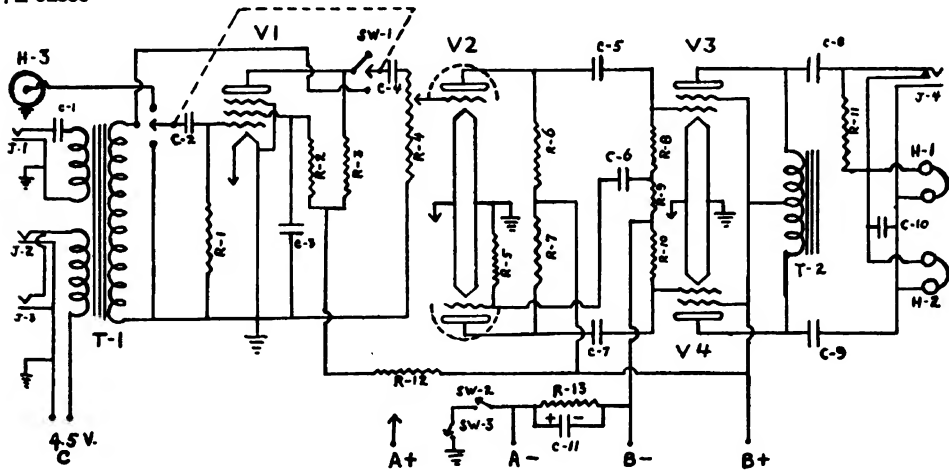

Figure 4. Amplifier, schematic diagram.
a. Carbon Microphone Input (fig. 4). Two input jacks, J-2 and J-3, are provided for input from carbon microphones. Either one or two may be used depending on whether or not two microphones are required to satisfactorily cover the area of the room. The circuit is from the jacks, through the selector switch, SW-1, to the grid of the first amplifier stage.
b. Contact Microphone and Induction Coil Input (fig. 4). A high-impedance input connector, H-3, is used for either contact microphone or induction coil applications. The circuit is from the connector, through the selector switch to the grid of the first amplifier stage.
c. Direct Telephone-line Tap Input (fig. 4). When a direct telephone-line tap is used the input is through a jack, J-1, the selector switch, to the grid of the second amplifier stage. Because the strength of this signal requires less amplification than the other applications, the first amplifier stage is bypassed.
a. First Audio Amplifier (fig. 4). The first audio amplifier is resistance coupled from the selector switch to the grid. The tube is a 1N5GT, a directly heated pentode. The grid connection is to a cap on the tube. The stage acts as a straight amplifier.
b. Phase Inverter (fig. 4). The second stage of the amplifier, a 1G6GT tube, is a duo-triode, which acts as a phase inverter to drive the output
c. Power Output Stage (fig. 4). The power output stage consists of two 1LB4 tubes connected in push pull. The tubes are power amplifier pentodes, the suppressor grid being connected internally to the negative side of the filament.
a. The output of the amplifier is arranged to feed into either one or two pairs of headphones, which plug into phone-tip jacks, H-1 and H-2 (fig. 4), on the panel.
11. POWER SUPPLY (fig. 4).